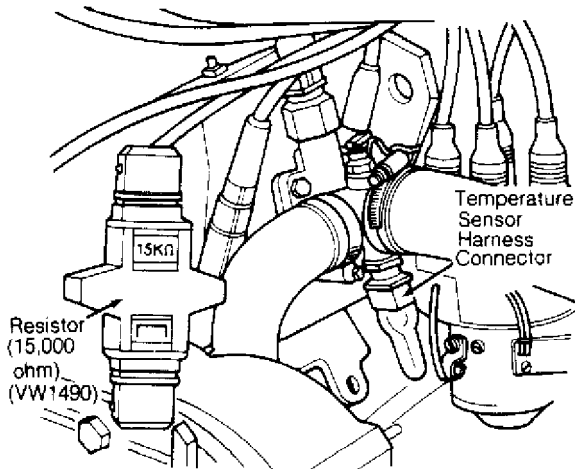

Fig. 1: Locating CTS Sensor & 15,000-Ohm Test Resistor (Fox)
4) Remove suction hose from carbon canister. Disconnect "T" fitting from carbon canister at air intake boot. On Fox, remove connector from coolant temperature sensor and install 15,000-Ohm Resistor (VW 1490) on temperature sensor harness. See Fig. 1.